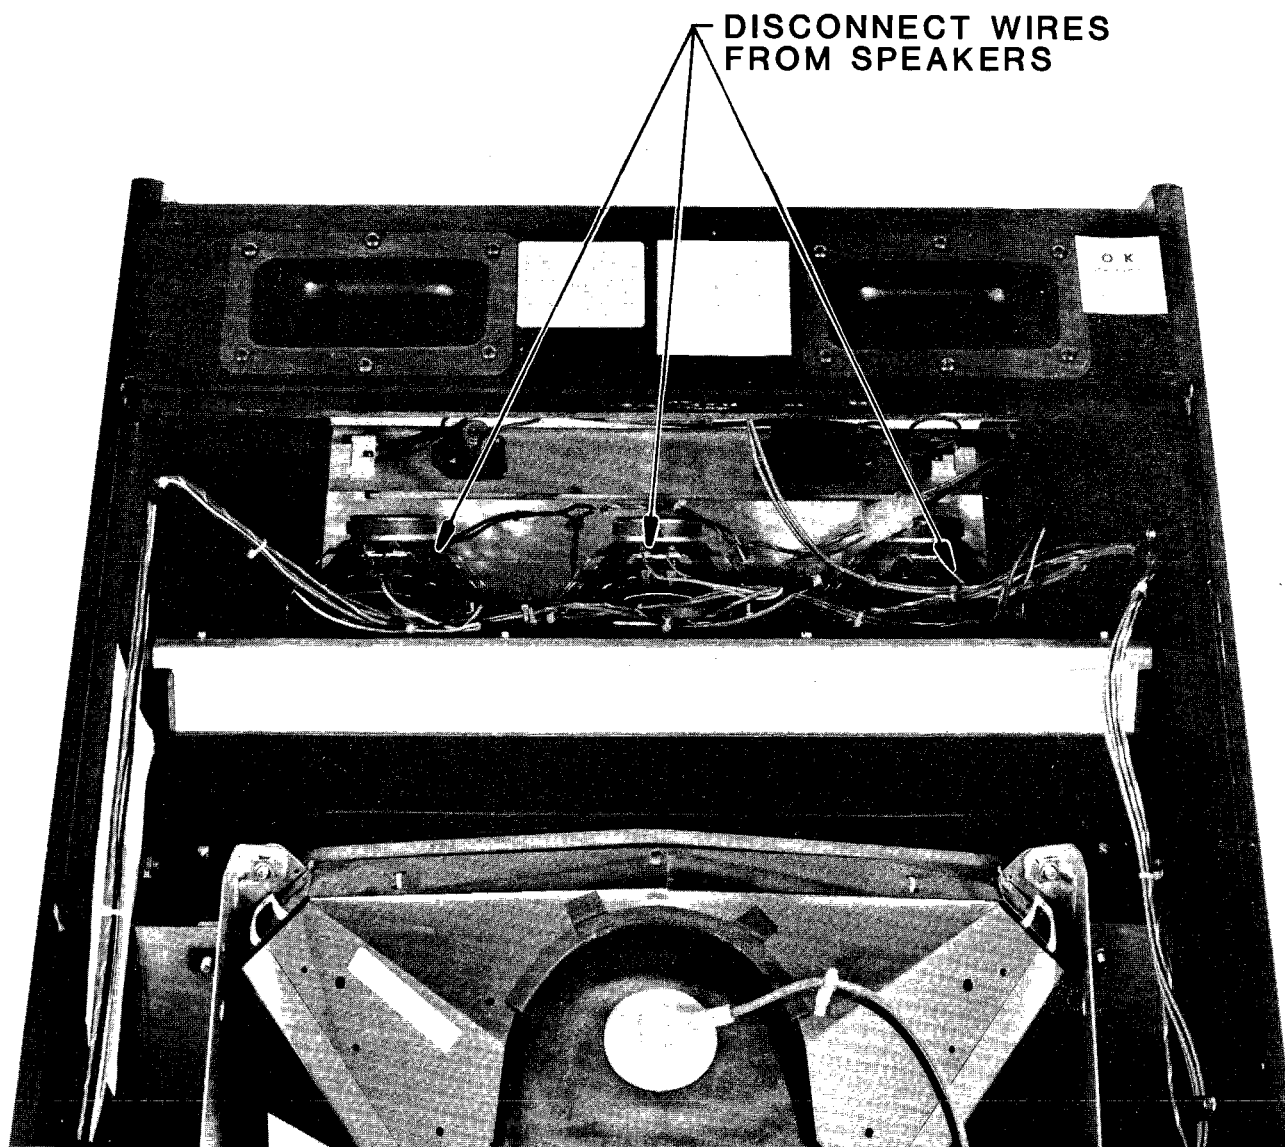

FIG.32
2. Mini model — See Figure 32.